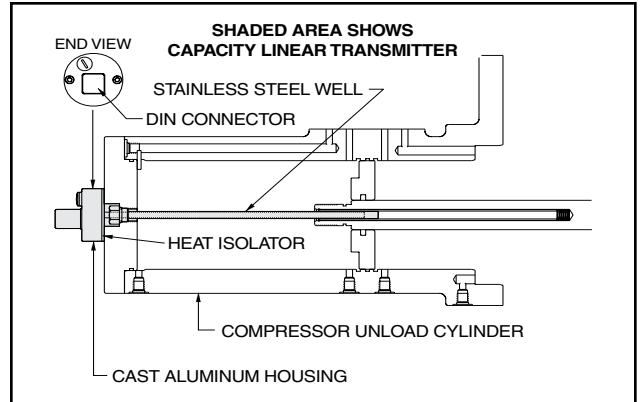
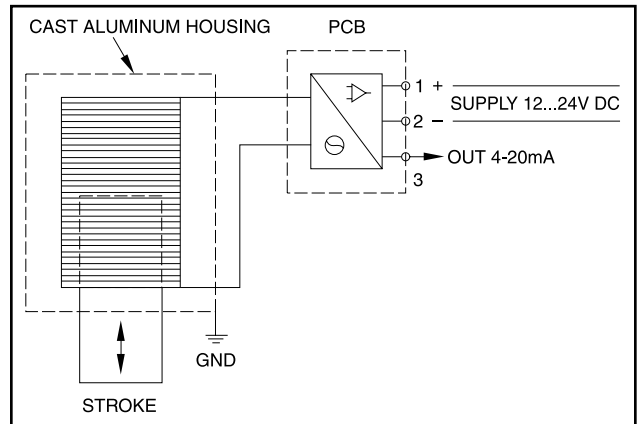

Figure 7 - Capacity Slide Valve Transmitter
Figure 8 - Wiring Diagram for Slide Valve Transmitter
The slide valve transmitter (Figure 7) measures the position of the slide valve (SV) and sends a 4 to 20mA signal to your control system. See Figure 8. The controller will adjust the position of the SV according to the motor load set point. The correct position is important to properly load the compressor and motor. It is important not to overload the compressor and motor. Observe the maximum power input and ensure design limitations are not exceeded. Connect to +/- and signal as shown in the wiring diagram, Figure 8. Refer to Frick compressor panel instructions for calibration procedure S90-020.